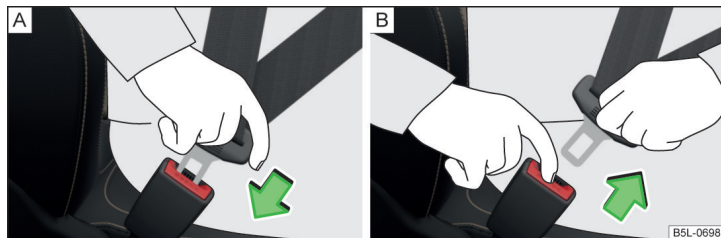

Fig. 7 Fastening/unfastening the seat belt
- Insert the lock tongue into the belt buckle belonging to the seat » Fig. 7 - [A]
- Press the red button in the belt buckle » Fig. 7 - [B] and the lock tongue will pop out.